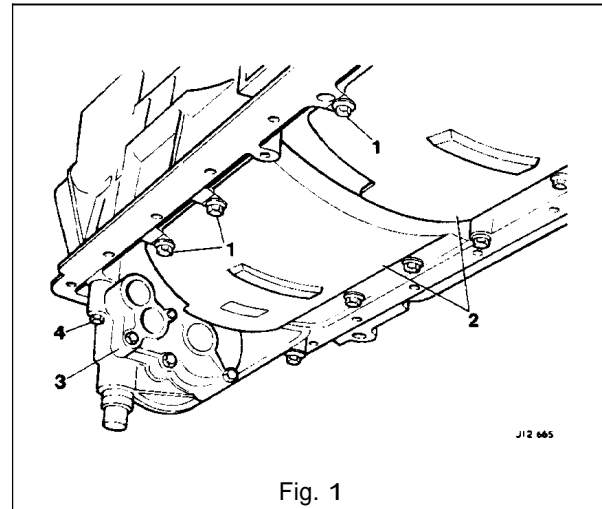

Fig. 1
- Clean and polish the crankshaft journals, lubricate and carefully assemble the crankshaft into the cylinder block, fit the thrust washers ensuring that the steel side of the washer is mated to the cylinder block (1 Fig. 1).